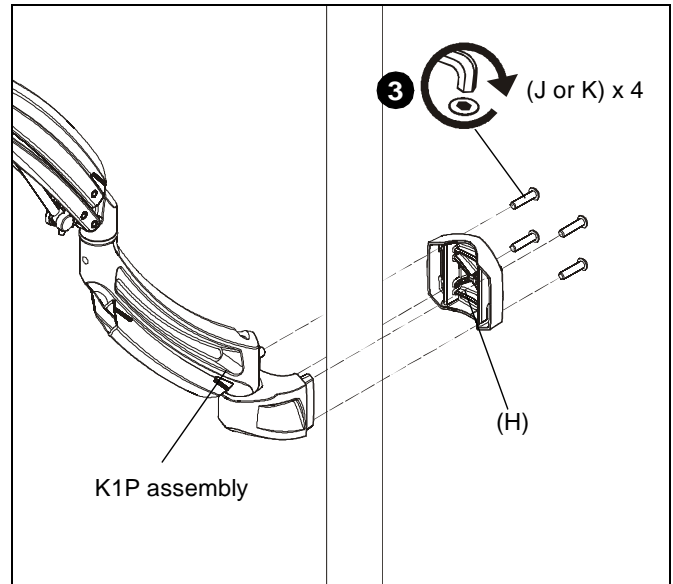

Figure 10
2. Place mount (A) against pole with clamp (H) on opposite side of pole. (See Figure 10)
3. Using 5/32" hex key (L) and appropriate length screws, loosely attach K1P assembly to pole clamp (H). If installing to 1 1/2" NPT pipe, use 1/4-20 x 1 1/2" button head cap screws (J). If installing to 1 1/2" diameter pipe, use 1/4-20 x 1" button head cap screws (K). (See Figure 10)